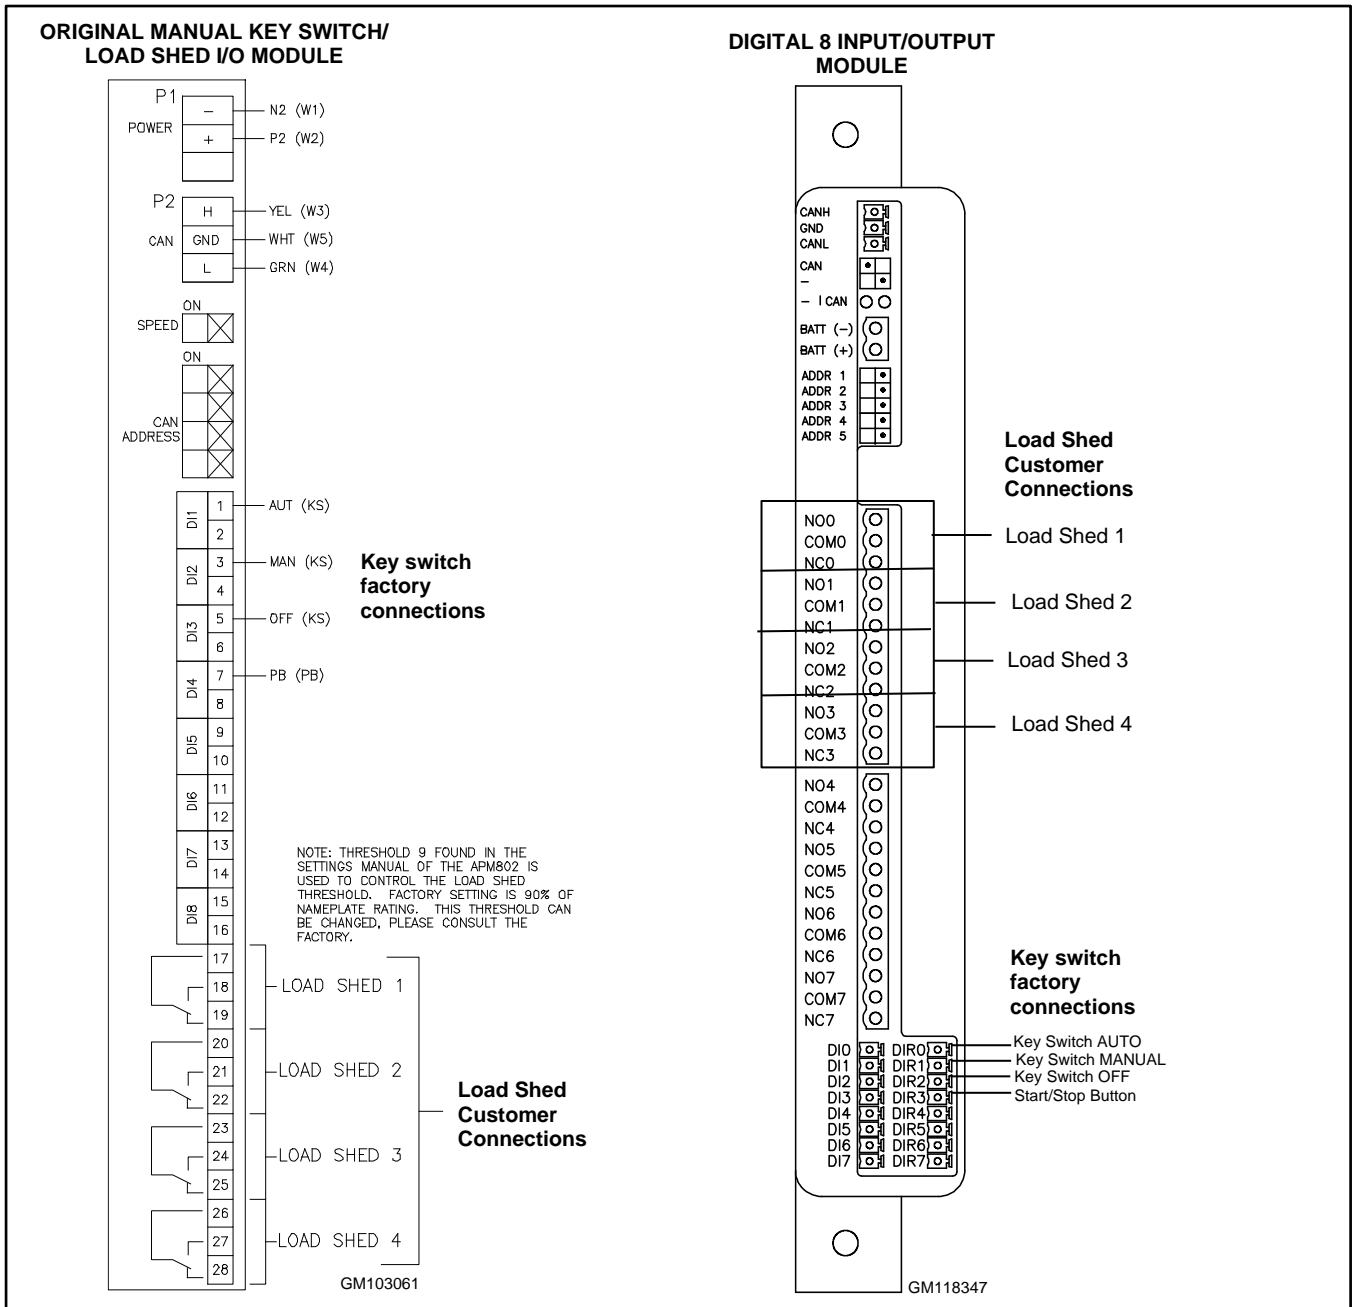

Figure 14 Load Shed Output Connections
Controllers with load shed capability are equipped with a Manual Key Switch/Load Shed digital I/O Module, which is factory-installed in the first position. Connect up to four non-critical loads to Load Shed Outputs 1 through 4 on the Manual Key Switch/Load Shed Module. See Figure 14. The load shed outputs are Form C contacts. Connect to the normally open (NO) or normally closed (NC) contacts as required for the application.